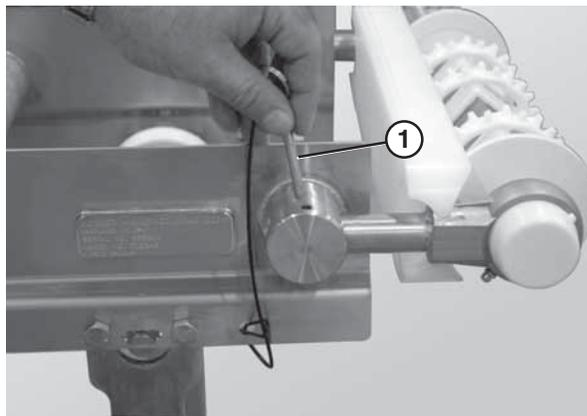

Figure 64
5. Remove the pull pin (**Figure 64, item 1**).
1. Remove the pull pins (Figure 64, item 1).